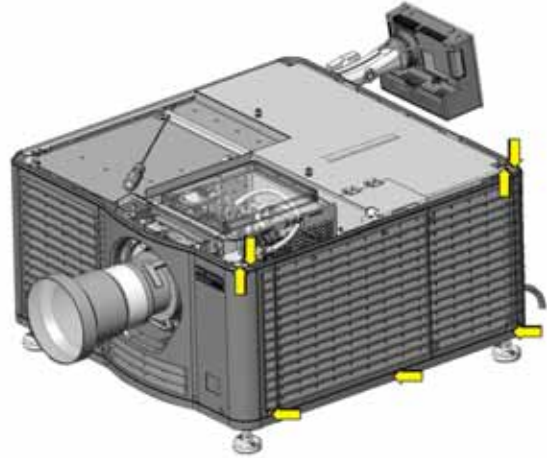

Figure 5-11 Remove Exhaust Panel
3. Use a 4mm hex key to remove the four screws securing the skin to the corner brackets (**Figure 5-11**).